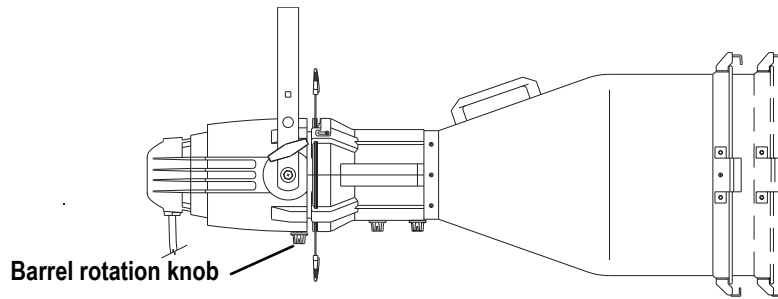

Figure 9
- Step 1: Loosen the barrel rotation knob directly behind the shutters on the underside of the reflector housing (see Figure 9). **Do not** remove the barrel rotation knob.